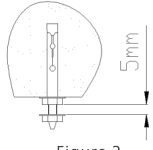

Figure 2
4. As shown in Figure 2, drill 4 $\phi 10 \times 80$ mm holes, fix and tighten expansion screws with a wrench. Loosen nuts of two expansion screws at one side and keep about 5 mm distance between washer and nut. Remove nuts and washers of 2 expansion screws on the other side.